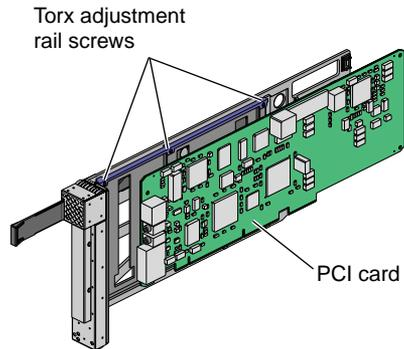
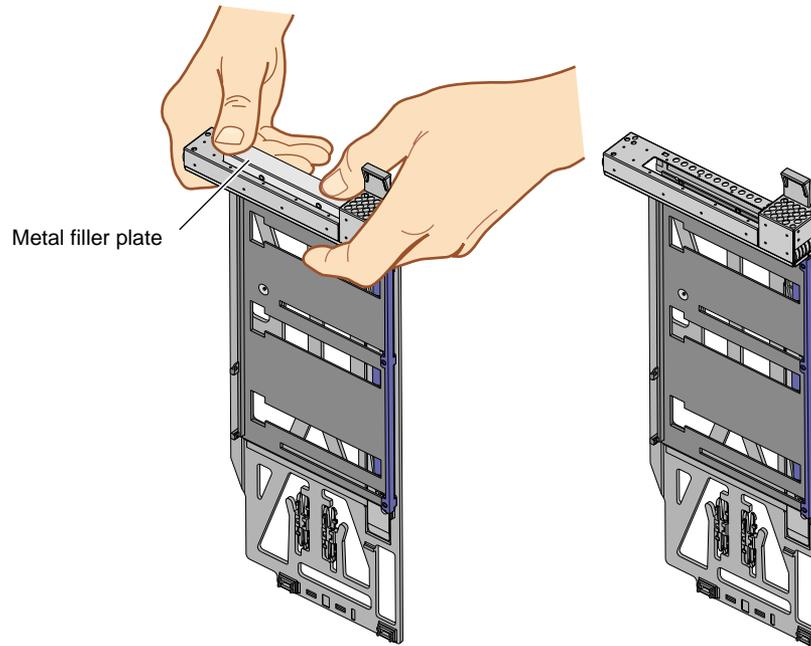

Figure 2-2 Torx Adjustment Rail Screws
Figure 2-3 Extracting PCI Carrier's Metal Filler
2. If you are replacing a card, loosen the three T8 Torx adjustment rail screws (refer to Figure 2-2) and gently remove the existing PCI card from the carrier. If adding a PCI card, extract the metal filler plate by pushing down on it as shown in Figure 2-3. This filler plate covers the PCI-card connector area.